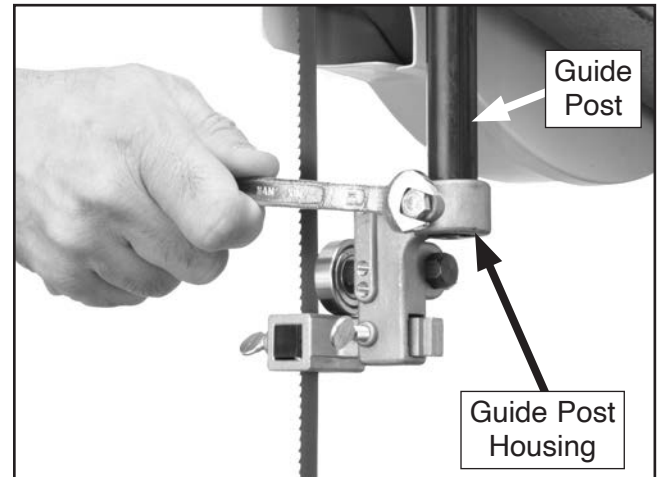

Figure 18. Installing upper blade guide.
1. Slide the upper guide assembly onto the guide post until the bottom of the guide post is flush with the bottom of the blade guide post housing, and secure with (1) M6-1 x 16 hex bolt, as shown in **Figure 18**.